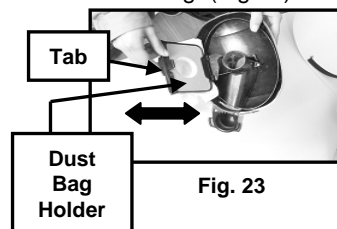

Fig. 23
- Holding the **HEPA** dust bag in your hand, slide it out from the slots in the bag holder. Hold carefully in order to avoid having dust fall out of **HEPA** dust bag. (Fig. 23)